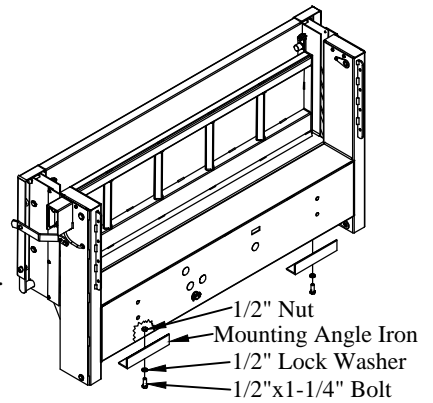

Figure 12: Mounting angle iron location.
- 1. Install** the two (2) mounting angle irons to the bottom of the liftgate (Figure 12).